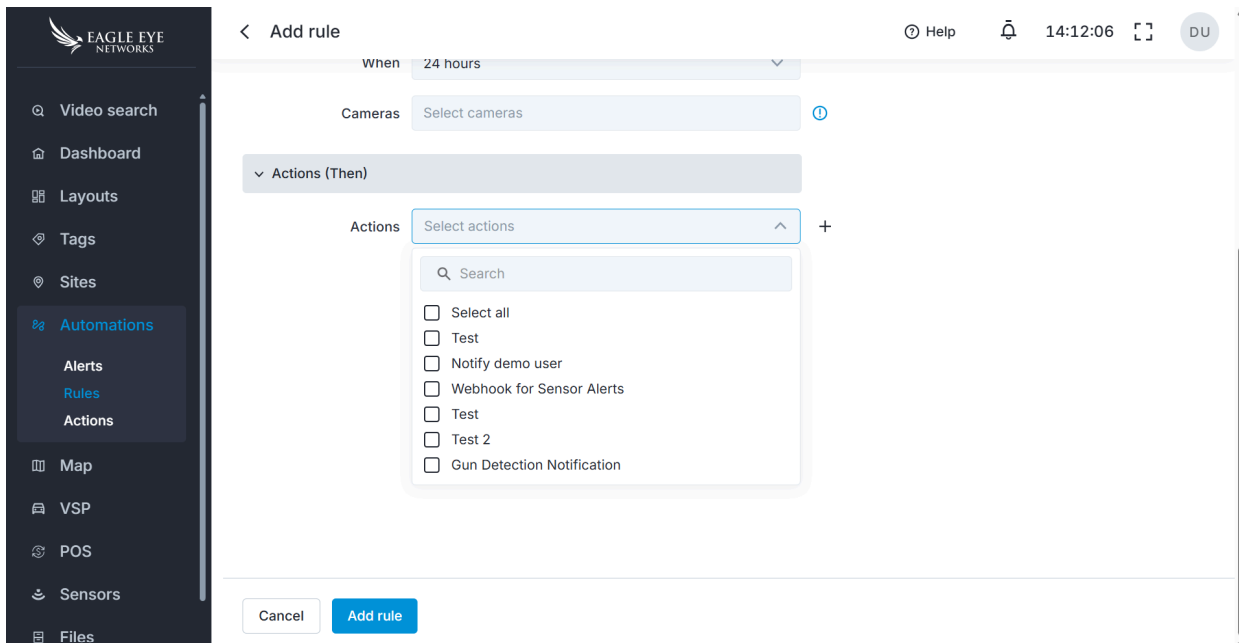

Figure 6: Setting up Gun Detection Notifications in the VMS
5. In the Add Rule dialog page, enter a rule **Name** (user-defined), set the **Alert Type** to **Gun Detection**, and select or add an action for **Gun Detection Notification**. See Figure 6.